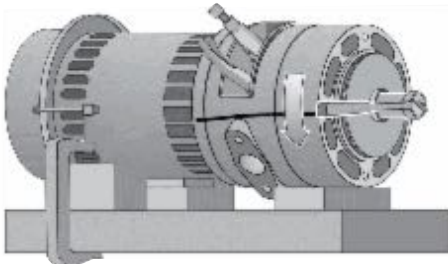

Figure 30
8. Hold the motor shaft with pliers or vice grips through the opening in the pump adapter. Unscrew the impeller nut off the end of the shaft (see Figure 30).